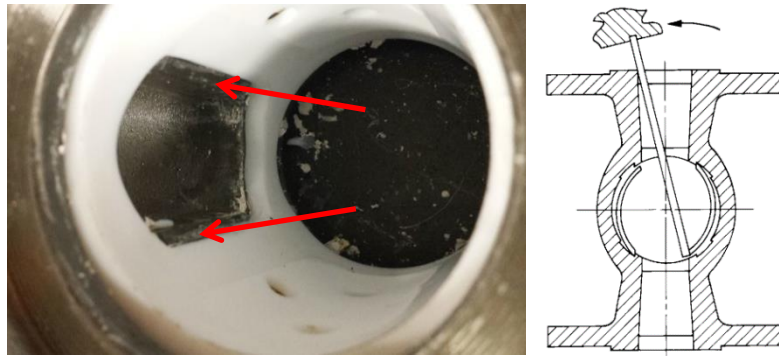

Figure 8.8.3
- d.** Rotate the locking plug back to center, and retract or remove the arms. Remove the locking plug, and inspect to ensure the sleeve is locked behind all 4 ribs. See Figure 8.8.3. Reinstall and lock again if required.